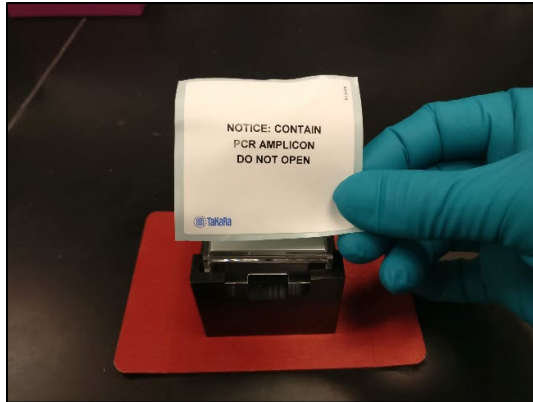

Figure 102. Securing the collection module with Collection Film.
- Seal the chip and the top of the collection module with a supplied Collection Film (Figure 102, below).